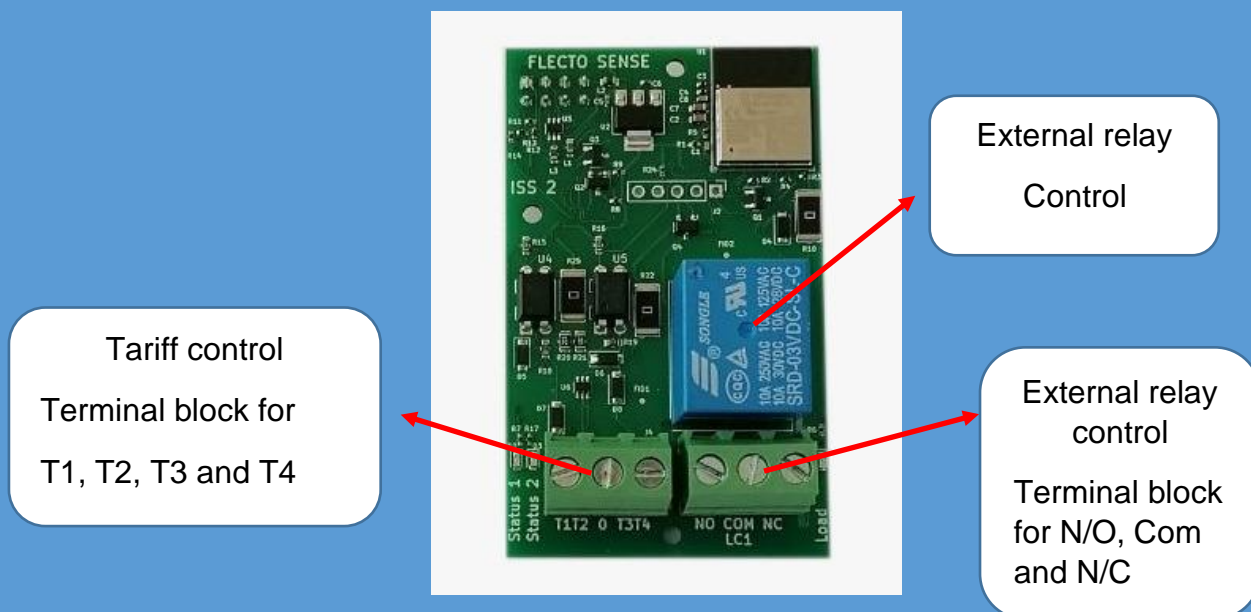

Fig.1
- Channel 1 is controlling an external load by means of a 10A relay with N/O, Com and N/C connector points on-board the TL-300 module (Please refer to Fig.1)